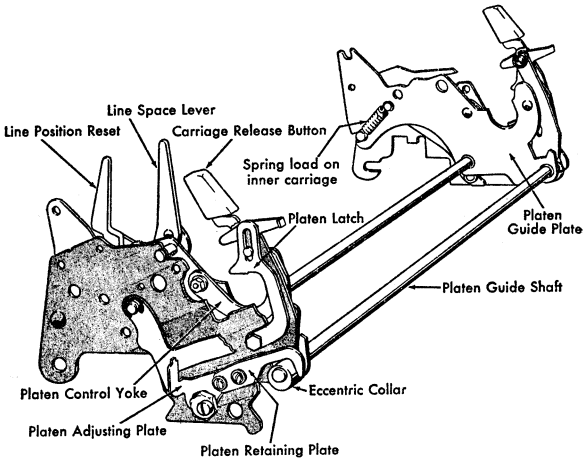

Figure 16. Carriage Adjustments
1. Remove the platen and both platen retaining plates (Figure 16).
2. Remove the front rail dust cover and eccentric collar from the left end of the platen guide shaft (Figure 16).
5. On machines which have no carriage side-frame eccentric nuts, a spring connects the inner carriage to a stud on the outer carriage at each end. This must be unhooked (Figure 16).
1. PLATEN LATCH ECCENTRICS. Adjust eccentrics to just (Figure 16) eliminate the up or down movement of the platen bushings. They must not be adjusted too tight or the platen will be difficult to latch or unlatch.
2. PLATEN CONTROL YOKES. Adjust the yokes (Figure 16) by loosening the front and rear screws and turning the
3. PLATEN RETAINING PLATES. Position the plates to hold the eccentric collars on the ends of the platen guide shaft tightly against the platen adjusting plates (Figure 16). When making this adjustment the multiple copy control lever must be forward.